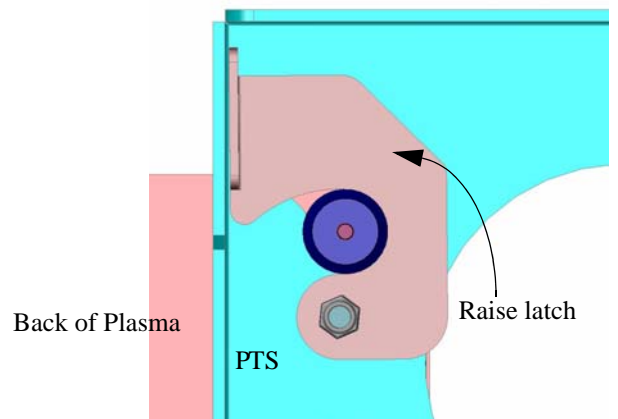

FIGURE 8. RAISE LATCH
4. Secure the display to the PTS by completely engaging the latch (see Figure 8).